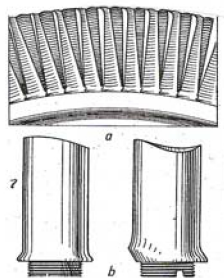

Fig.3
d) What part of the text does fig. 3 correspond to? Prove your answer.